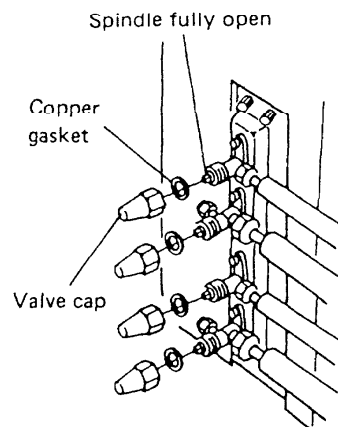

Fig. 14
- h) Next, re-install the valve caps in which copper gaskets have been inserted. (Fig. 14)